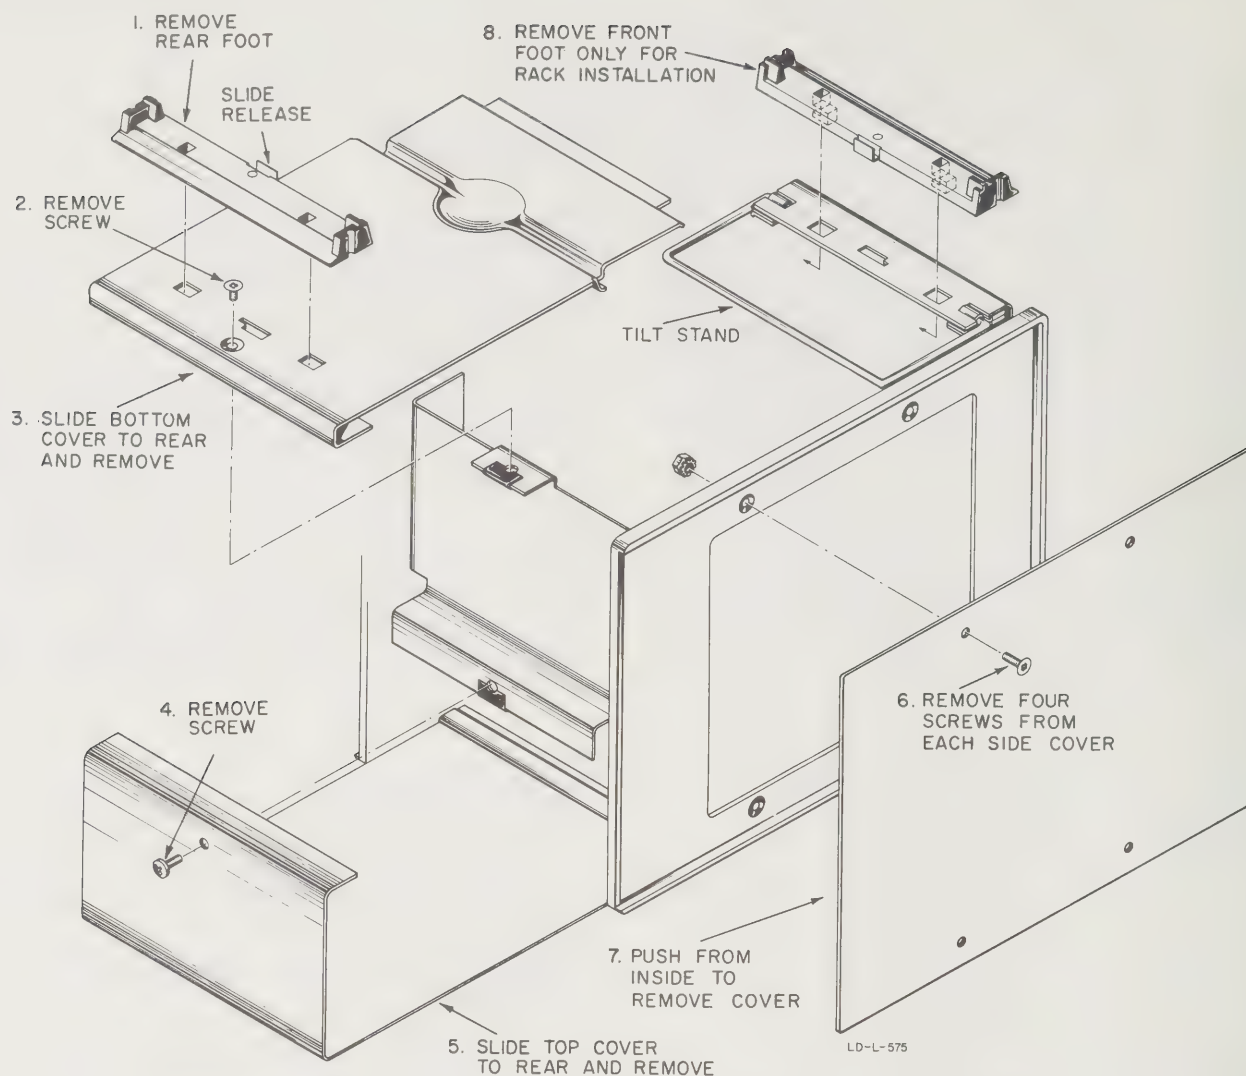

Figure 5-1. Cabinet Removal
5-4. Figure 5-1 illustrates the removal of all instrument covers. This should be necessary only when replacing an attenuator section or a switch component (see paragraphs 5-5 and 5-7).
- a. Remove all instrument covers (see figure 5-1).